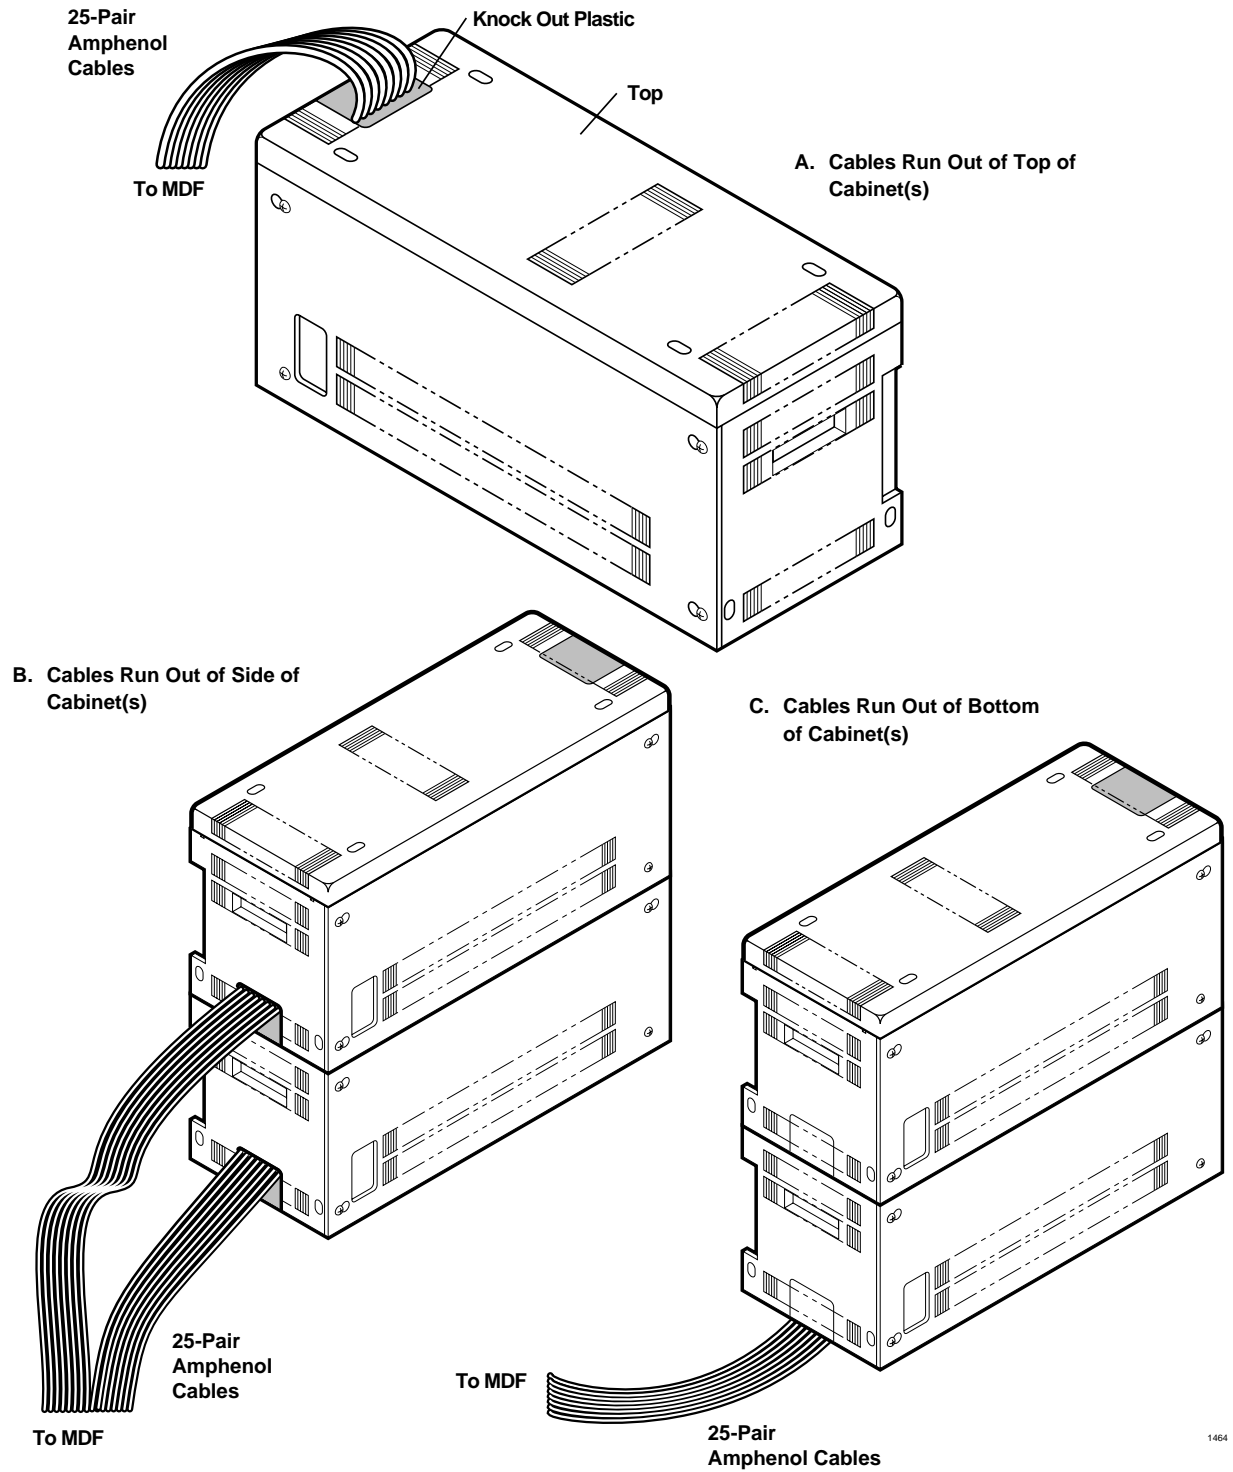

Figure 5-12 DK424 Cabinet Cable Routing
3. Install a floor fixture (RFMF1) on each side of the bottom cabinet (Figures 5-12 and 5-14), making sure that the fixture is inside of the cabinet edge.